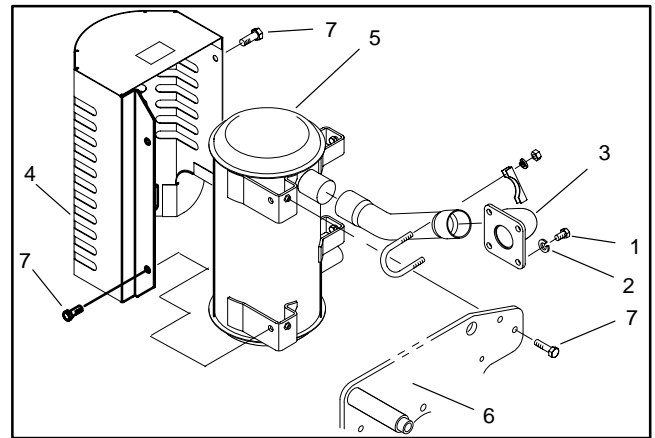

Figure 34
10. Remove muffler as follows (Fig. 34):
B. Secure radiator support (8) to the frame with cap screws (7). Secure radiator support, breather hose (24), and R-clamp (31) to the frame tab with cap screw (18), flat washer (36), and lock nut (9).
C. Connect hose (34) from air cleaner to the radiator support (8).
D. Connect radiator hose (2) to the bottom of the water pump.
E. Connect breather hose (24) and radiator hose (17) to the radiator elbow (26). Install new cable tie (37) to the breather hose and bracket.
F. Install alternator guard (29) to the radiator support (8) and frame bracket.
12. Install muffler as follows (Fig. 34):